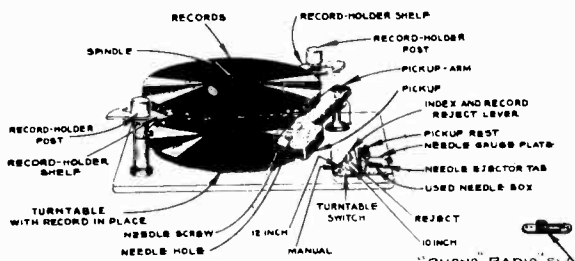

Figure 6
The two record holder posts (See Figure 6) are covered with paper held in place by rubber bands as is also the pickup. Remove these paper coverings.
TURNTABLE SWITCH: The turntable switch is a toggle type located in the front of the index plate on the motorboard (See Figure 6). It is used to start and stop the motor.
INDEX LEVER: The Index Lever moves in a small arc in the slot in the index plate. (See Figure 6). The plate is labeled for four positions of the lever - "Manual", "12", "10" and "Reject". If a single record is to be played the automatic record-changing feature will not be used and the Index Lever should be set to the "Manual" position.
Lift the Record Holder shelves, Figure 6, with the fingers underneath and revolve to clear the record circle, also push back the lever sticking up adjacent to the rear record holder post. You now have clear access to the turntable. Place the first record upon the turntable with the spindle protruding through the center of the record.
1. Move Index Lever to "Manual" position. See Figure 6.
3. Lift the record holder shelves and swing outwards. See Figure 6.
7. Turn on turntable switch. See Figure 6. The turntable will start revolving. Wait till it has reached its normal speed.
The phonograph will not shut off until the turntable switch (Figure 6) or the Receiver switch is turned off.
1. Move index lever to "Manual" position. Fig. 6.
4. Swing the record holder shelves inward into place down on their posts and extending over the turntable. Fig. 6.
7. Turn on turntable switch. Fig. 6.
Records with the center changing groove will change automatically at the end of each selection until the end of the last record is reached. The last record will repeat itself until the Turntable Switch or Power-Tone control is turned off. To bring down another record at any time during playing of series, push the index lever, (Fig. 6) to "Reject" and let go. Bring back to "12" if you are playing 12-inch records.